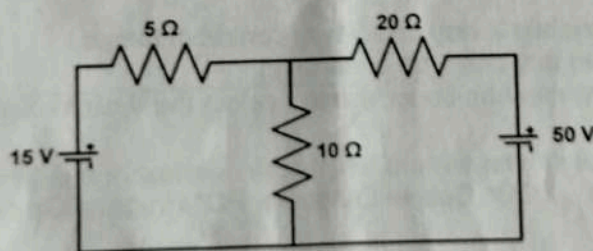

Figure 3a
- For the circuit shown in Figure 3a find voltage drop across various resistors using nodal analysis. 4 1